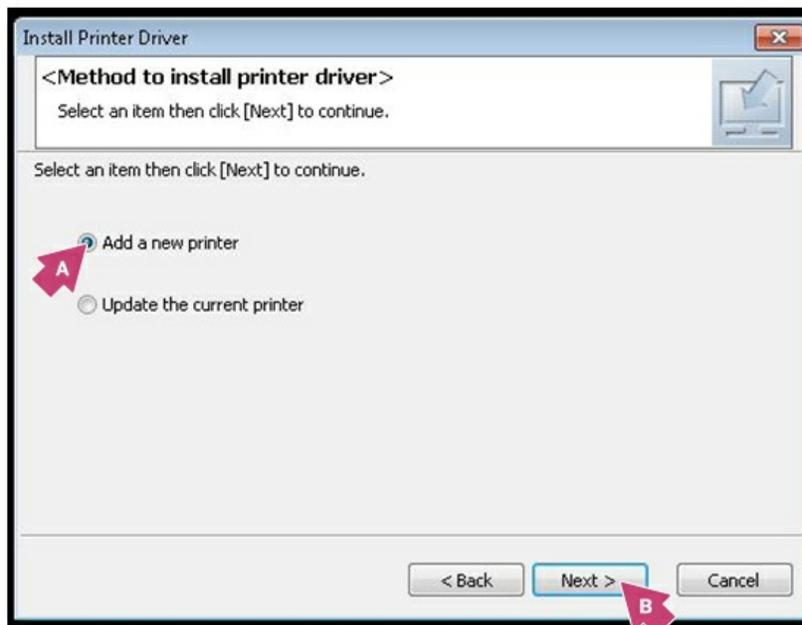

FIGURE 11
- Select **Add a new printer** and click **Next**. See Figure 11.